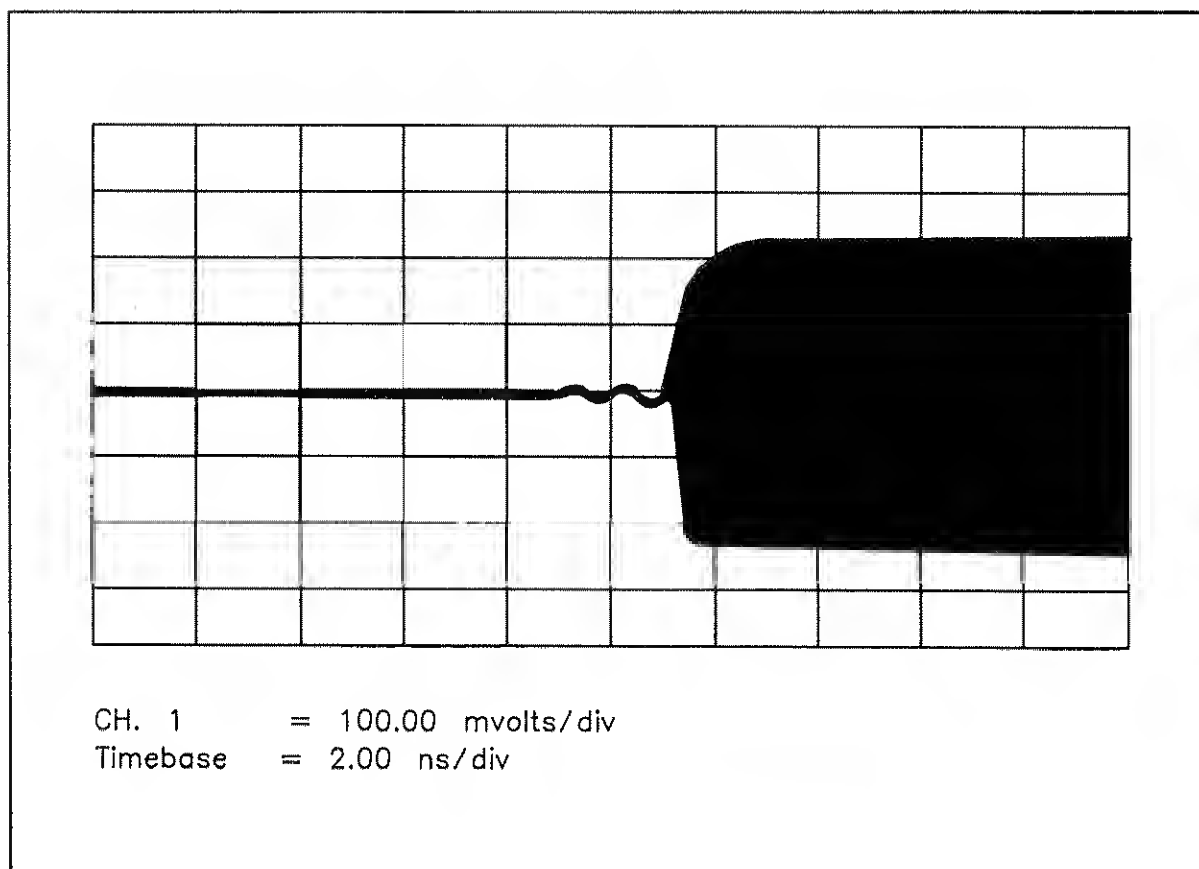

Figure 3-16. Pulse Modulation Pulse Risetime Waveform
9. Set the Signal Generator's carrier frequency as given in the following table. For each setting, measure the 10% to 90% risetime. Compare the waveform with figure 3-16. The risetime should be less than 8 ns. (If the oscilloscope has vertical and horizontal markers, they can be used to simplify these measurements.)